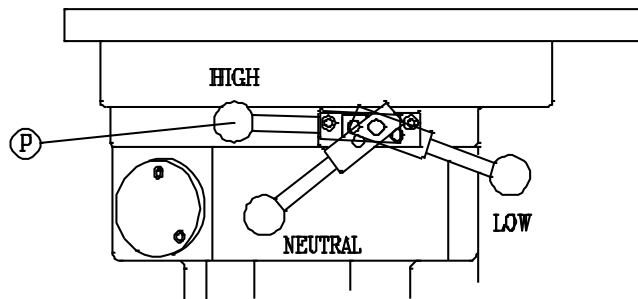

Fig. 6-4
6.1.4 Speed Change of Spindle (Fig. 6-4)